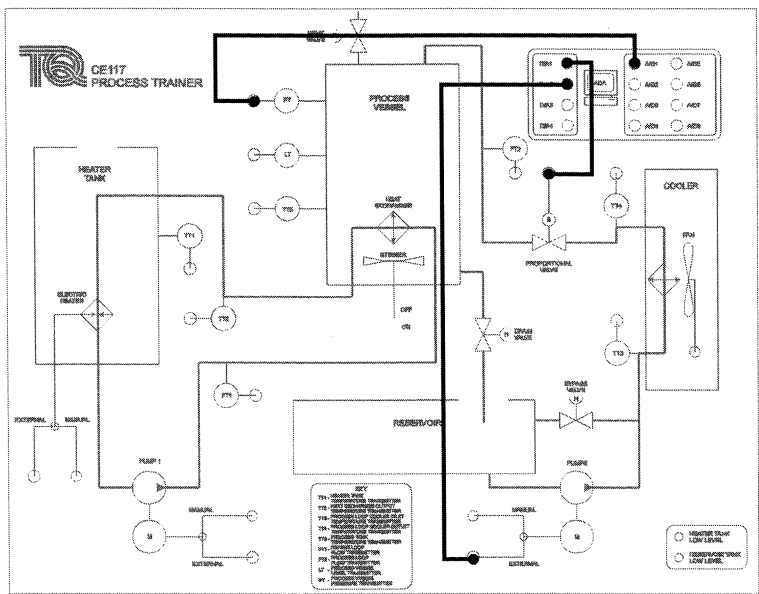

Figure 86 Connections for Experiment 10 Procedure 2
- 1) Start the CE2000 software and load file 'exp10-2.ict'. Connect the CE117 Mimic Panel as shown in Figure 86.
- 3) In the software, adjust the valve voltage to 10 V (fully open). Make sure that the Proportional Block (P) is set to 20.